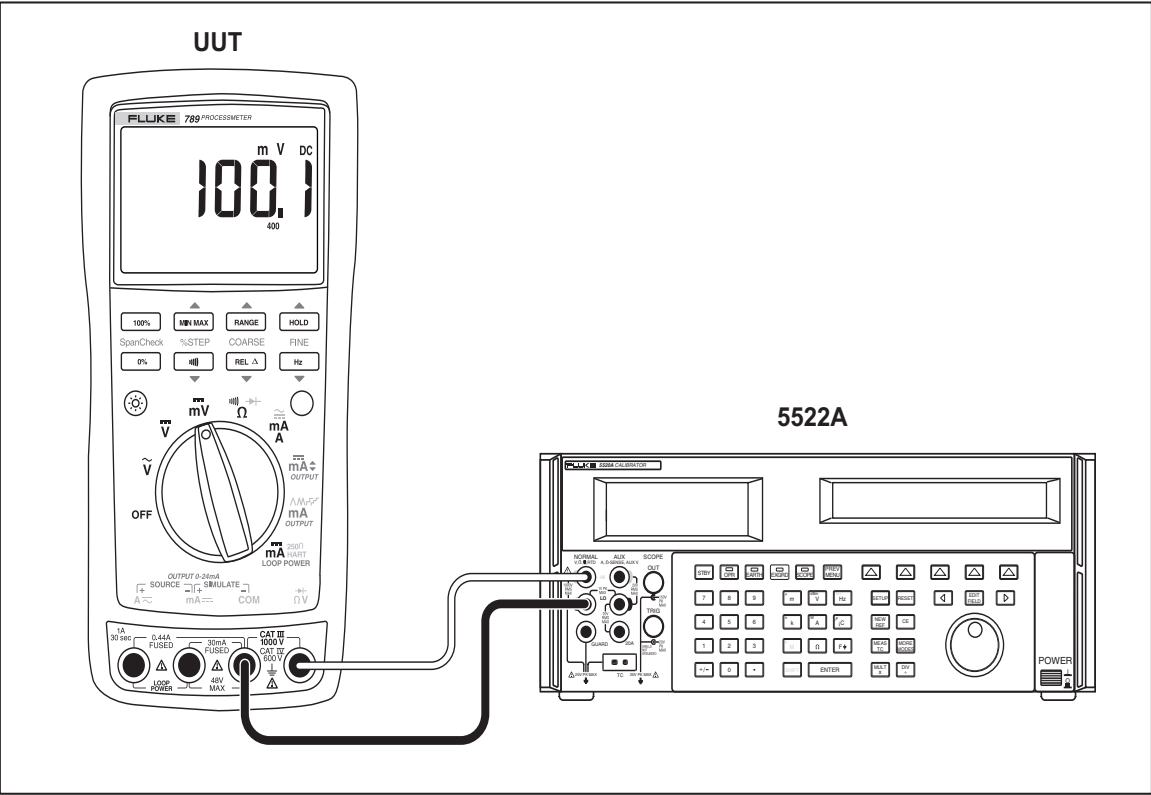

Figure 8. DC mV Measurement Test Connections
- 3. Connect the calibrator to the **COM** and **ΩV** terminals on the UUT as shown in Figure 8.